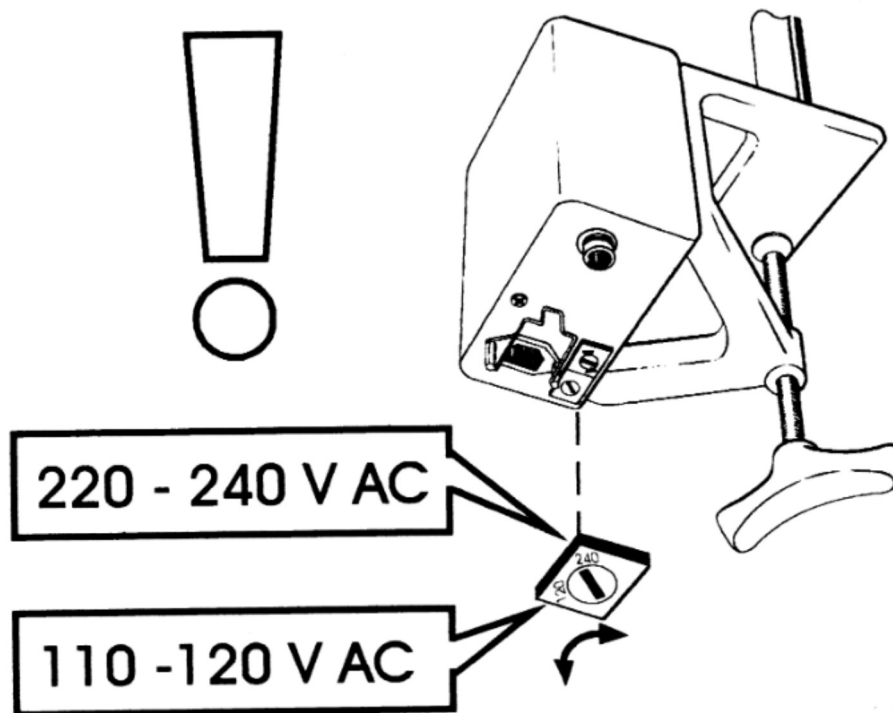

Figure 2 Setting the mains voltage
2. Check that the power supply is set to the correct mains voltage (110-120V or 220-240V), by noting the position of the indicator on the power supply near the mains input plug housing (see figure 2). **Severe damage can occur if the setting is incorrect.**